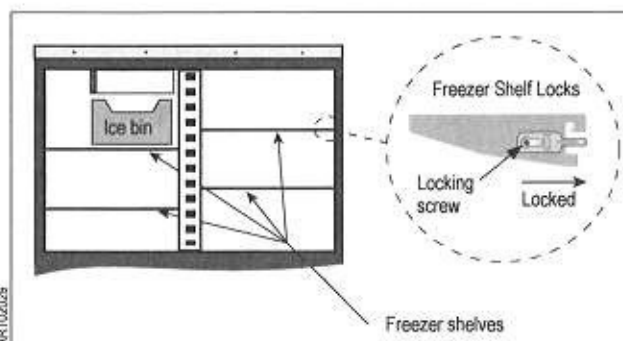

Figure 4. Shelves and Shelf Locks
- Use a medium size Phillips screwdriver to loosen the freezer shelf locks. Refer to Figure 4.